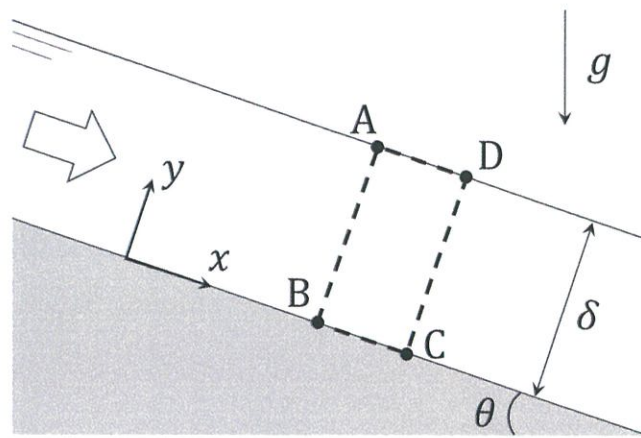

Figure 2-2
II. Consider a two-dimensional liquid film flowing along an incline making an angle  $\theta$  with respect to the horizontal as shown in Figure 2-2. The fluid in the liquid film is incompressible, and the density  $\rho$  and the coefficient of viscosity  $\mu$  are constant. The flow is a steady laminar flow and is fully developed. The liquid film thickness  $\delta$  is constant. The gravity acts in the vertically downward direction, and the magnitude of the gravitational acceleration is  $g$ . The origin of the coordinate system  $(x, y)$  is on the incline. The  $x$ -axis is in the streamwise direction tangential to the incline and the  $y$ -axis is along the wall-normal direction. The corresponding velocity components are denoted by  $u$  and  $v$ , respectively. The pressure at the liquid film surface is the same as the atmospheric pressure  $p_0$ . The shear stress acting on the liquid film surface is negligible. Answer the following questions.
- (1) Obtain the spatial distribution of  $v$  inside the liquid film. Describe the steps of the derivation process of your answer.
- (2) Obtain the spatial distribution of the pressure  $p$  inside the liquid film. Describe the steps of the derivation process of your answer.
- (3) By applying the momentum conservation law in the  $x$ -direction to the control volume ABCD as defined in Figure 2-2, express the shear stress  $\tau_w$  acting on the incline using  $g$ ,  $\delta$ ,  $\theta$ , and  $\rho$ . Describe the steps of the derivation process of your answer.
- (4) Using the averaged velocity  $U_0$  inside the liquid film, the dimensionless friction coefficient  $c_f$  is defined as follows: